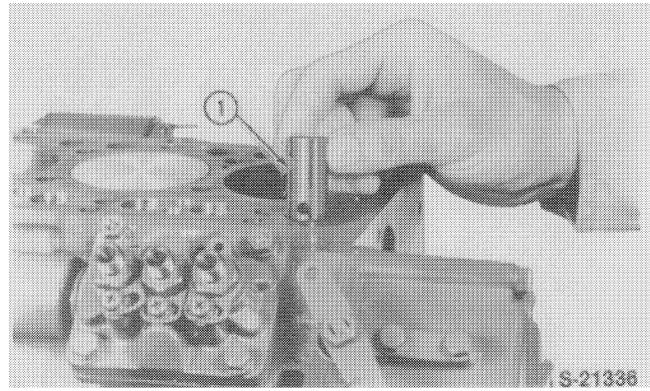

FIGURE 1-26
15. Using a magnetic rod, remove the valve tappets, 1, from the top of the engine block, Figure 1-26.